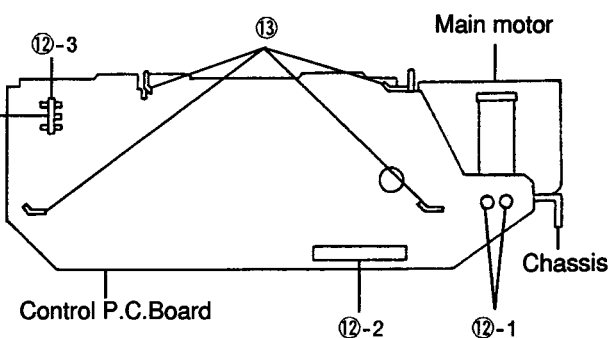

Figure 10
(1) After removing the belt, remove solder ⑫-1, and remove the wire flat (2P) from the control P.C.Board as shown in Figure 10.
② Since the wire flat is very easily damaged, handle it with care.
③ Fasten the two screws with a fastening torque of 2kg.cm.
(1) ベルトを外した後、半田⑫-1を外し、ワイヤーフラット (2P) をコントロール基板より外します。(図10参照)
- (1) Remove four solders ⑫ and remove the head P.C.Board and the two wire flat as shown in Figure 10.
- (2) Remove four claws ⑬ and remove the P.C.Board as shown in Figure 10.
- (3) After replacing the old P.C.Board with a new one, mount it following the removal steps in the reverse order.
② When using the soldering iron, set the temperature of the soldering iron to $320^{\circ} \pm 30^{\circ}\text{C}$ and the soldering time to less than 3 seconds, but solder point ⑫-3 to less than 1 second.
③ Take care that the solder is not loose, that there is no shortcircuit and that the coating is not damage.
- (1) 4ヶ所の半田⑫を外し、ヘッド基板と2本のワイヤーフラット (2P)、(10P) をそれぞれ外します。(図10参照)
- (2) 4ヶ所のツメ⑬を外し、コントロール基板を外します。(図10参照)
- (3) 良品のコントロール基板と交換後、取り外し方の逆の手順で基板を取り付けます。